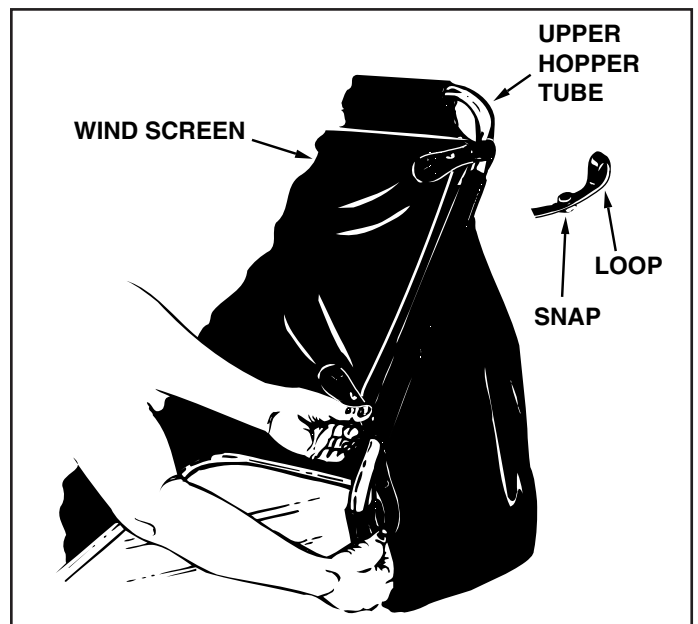

FIGURE 21
17. Assemble the wind screen to the hopper bag frame by snapping the screen's four corners loops around the frame's upper hopper tubes. See figure 21.